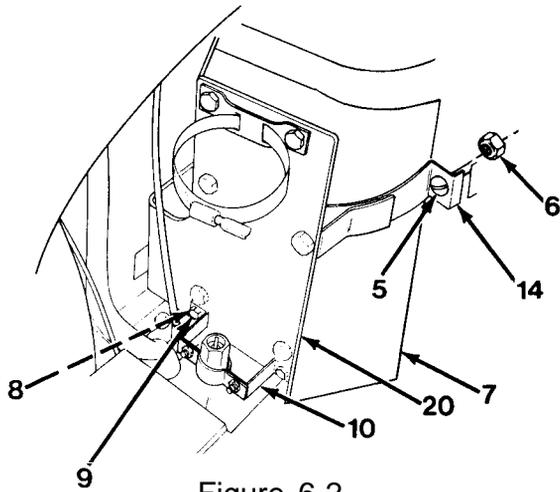
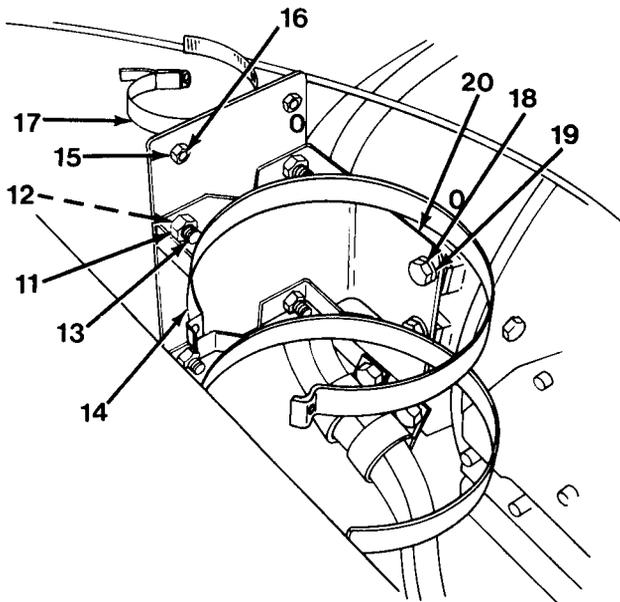
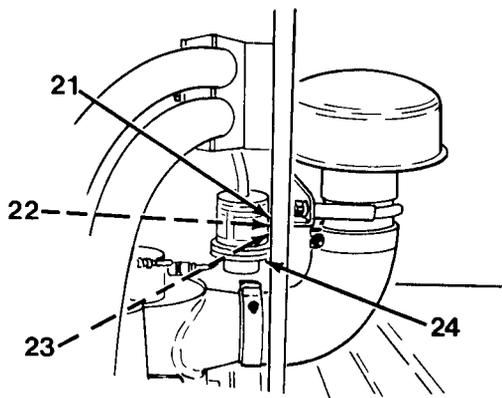

Figure 6-2
Figure 6-3
Figure 6-4
5. Remove two screws (5) and nuts (6) to loosen two mounting bands (14, Figure 6-2).
6. Remove air cleaner (7).
7. Remove two nuts (8) and cap screws (9) to disconnect bracket (10) from bracket (20).
8. Remove four nuts (11), washers (12), cap screws (13) and two mounting bands (14) from bracket (20, Figure 6-3).
9. Remove two nuts (15), cap screws (16) and bracket (17).
10. Remove two cap screws (18), washers (19) and bracket (20).
11. Remove two nuts (21), lockwashers (22), machine screws (23) and restriction indicator (24, Figure 6-4) from hood support.
1. Install restriction indicator (24), two machine screws (23), lockwashers (22) and nuts (21, Figure 6-4) on hood support.